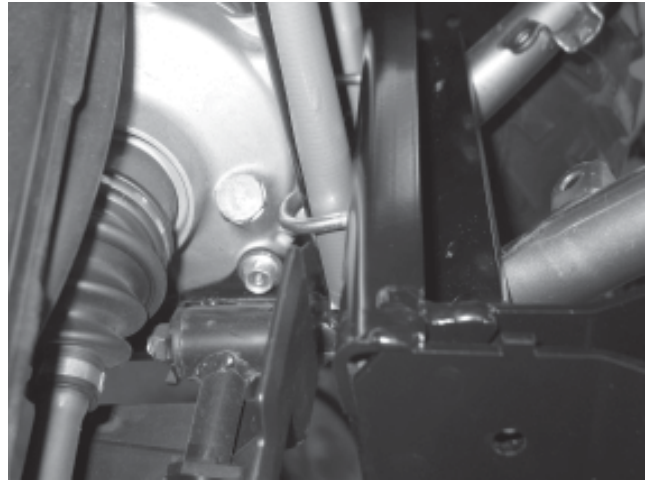

Figure 4
4. Connect the back of the mount to the rear frame rails using the provided u-bolts (B1), and M8 flange hex nuts (B2). Do not tighten completely (fig. 4).